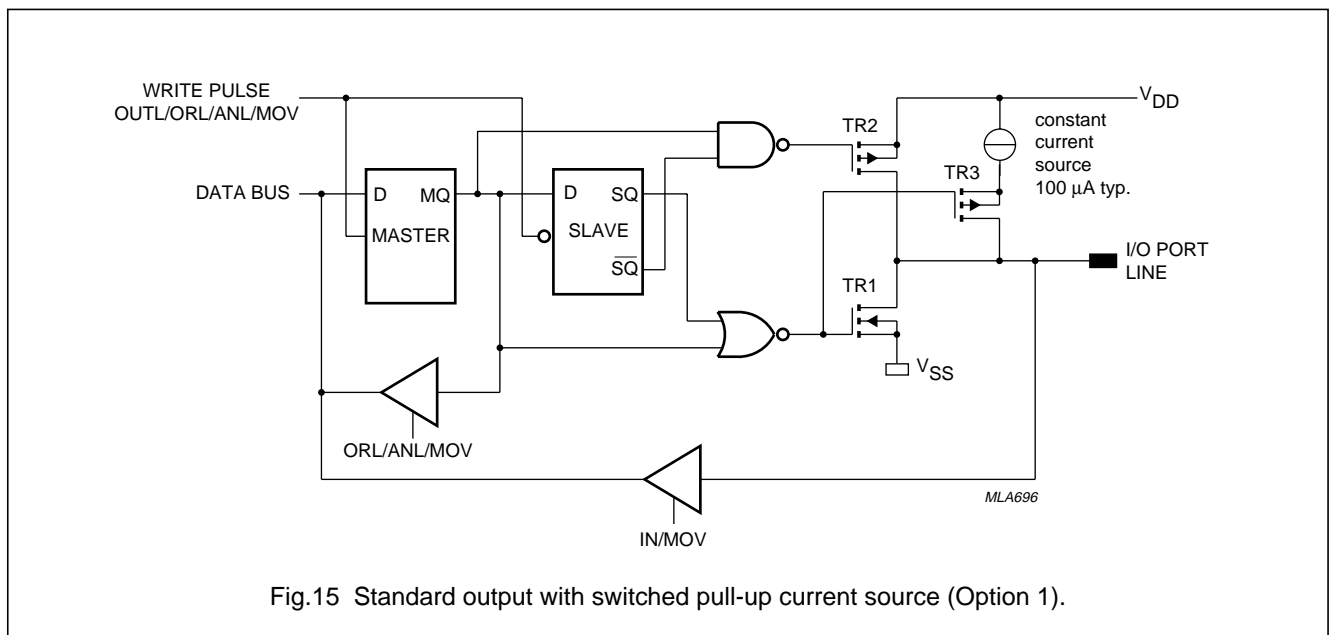

Fig.15 Standard output with switched pull-up current source (Option 1).
- Option 1 Standard port with switched pull-up current source, Fig.15.